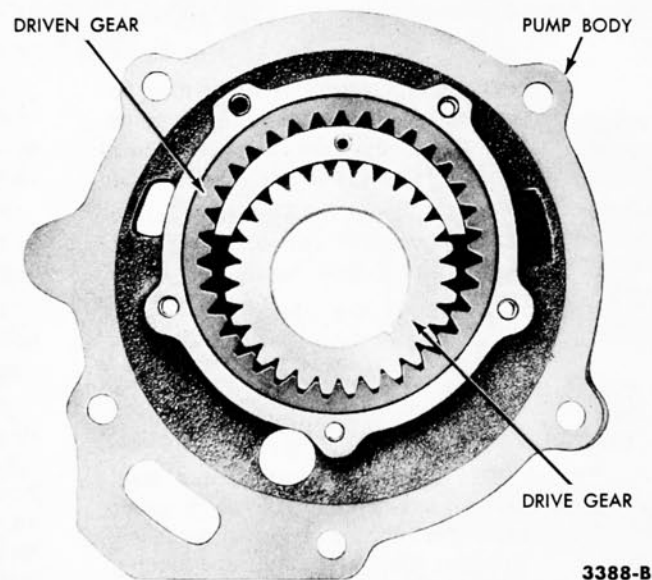

FIG. 19—Rear Pump
1. Remove the screws and lockwashers which secure the pump cover to the pump body, then remove the cover. Mark the top face of the pump drive and driven gear with prussian blue to assure correct installation of gears at assembly (Fig. 19). **Do not scratch the pump gears.**